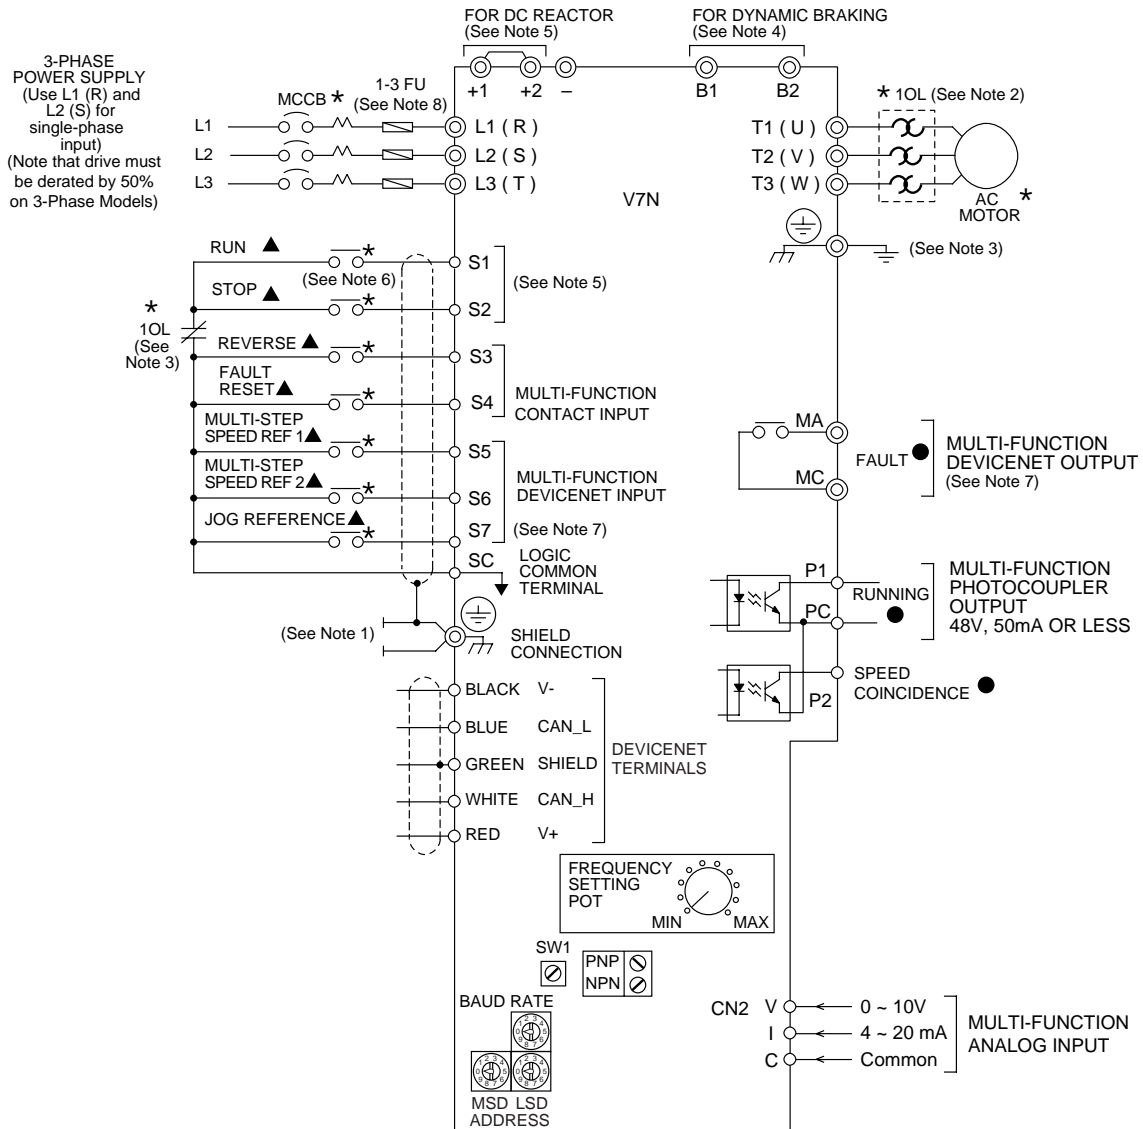

Figure 1-6. Standard Connections (3-Wire Control)
1. These inputs have factory settings based on 2-wire reset. For 3-wire reset definitions, see Figure 1-6.
NOTES FOR FIGURE 1-6